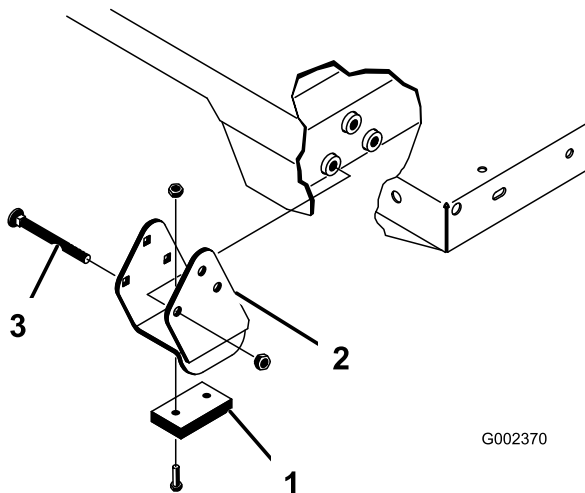

Figure 32
Note: Ensure that the spacer brackets and wear blocks (Figure 32) are installed with the carriage bolt heads positioned inside the machine.
frame channel and install 2 clevis pins and lynch pins (Figure 32).
3. With the bed lowered, secure each cylinder rod end, to the appropriate slots in the bed mounting plates with a clevis pin and lynch pin. Insert the clevis pin from outside of the bed with the lynch pin toward the outside (Figure 32). The rear slots are for a full bed installation and front slots are for a 2/3 bed installation.